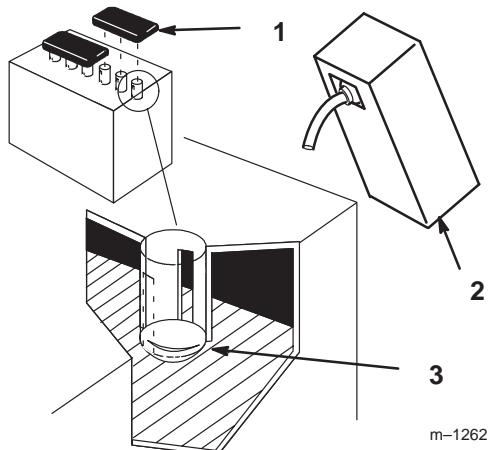

Figure 6
2. Remove filler caps from the battery. Slowly pour electrolyte into each cell until the electrolyte level is up to the lower part of the tube (Fig. 6).